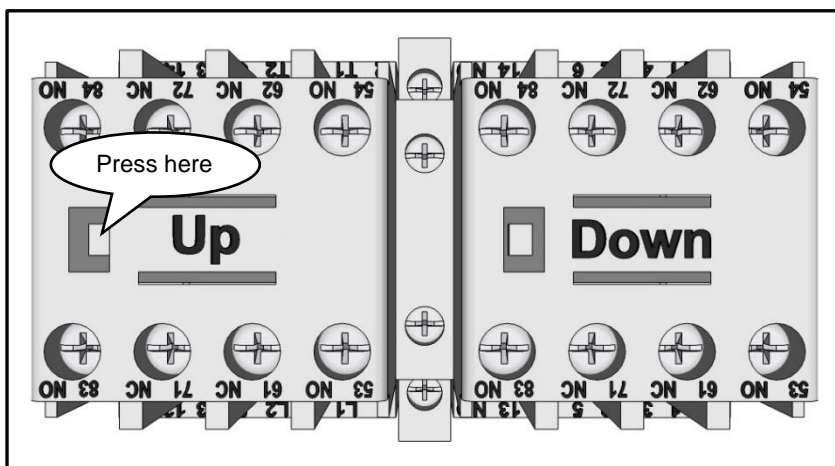

Figure 8
- 2** To check the motor rotation, open the control box and locate the Down “D” and Up “U” contactor. (see Figure 8)